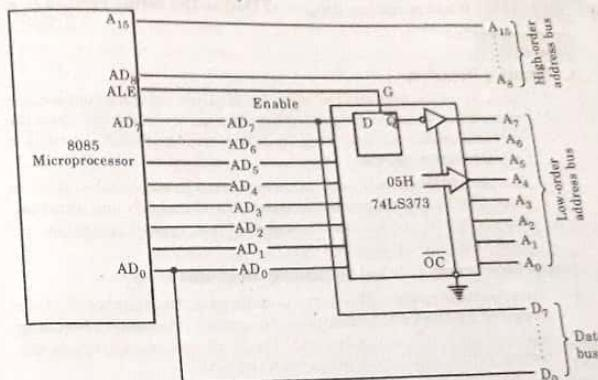

Fig. 1.11.1.
4. To achieve this, the data bus $AD_0 - AD_7$ is needed to be demultiplexed. Fig. 1.11.1 shows the use of latch and ALE signal to demultiplex the bus.